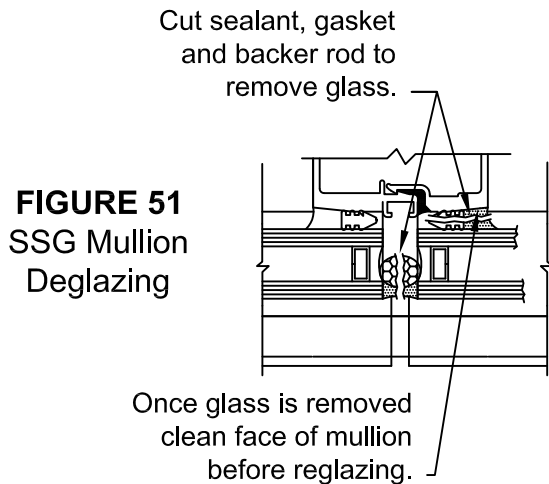

FIGURE 51
- R.8 Vertical structural silicone joints must be cut to remove broken lite of glass. SEE FIGURE 51, page 42.